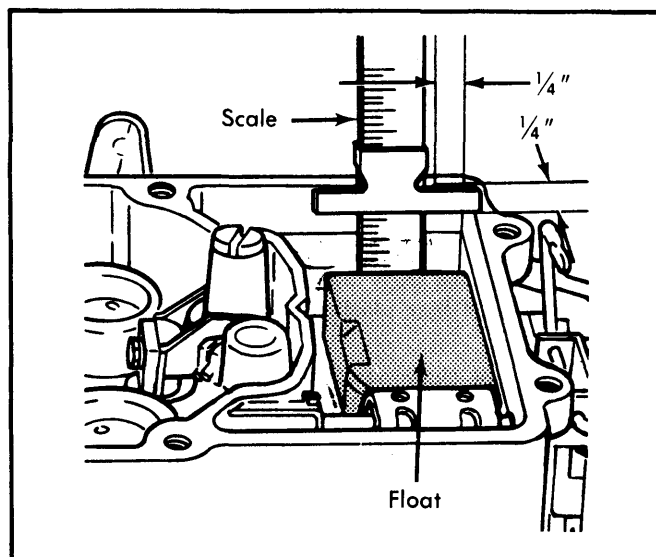

Fig. 3 Adjusting Float Level (Wet Setting)
- 1) Warm up engine to operating temperature. Ensure vehicle is on flat, level surface. Stop engine and remove air cleaner and air horn attaching screws. Leave air horn in position on carburetor. Start engine. See Fig. 3.